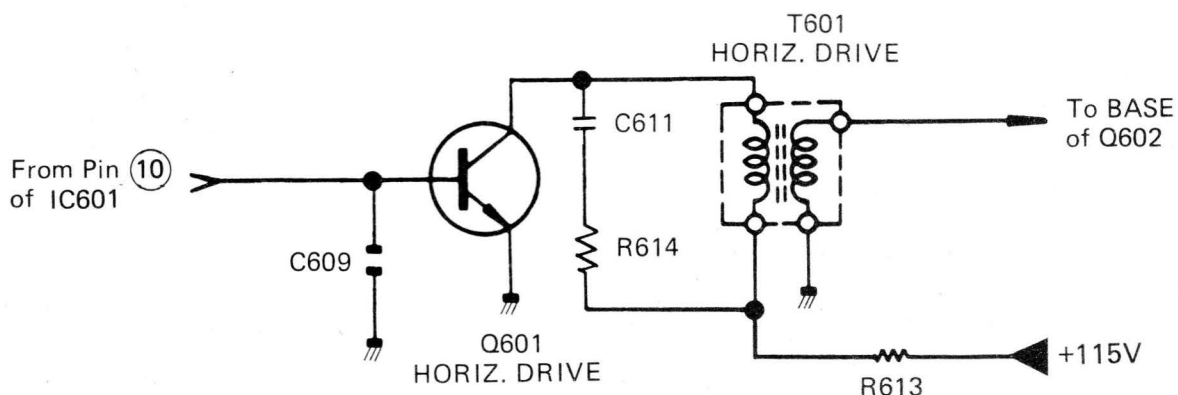
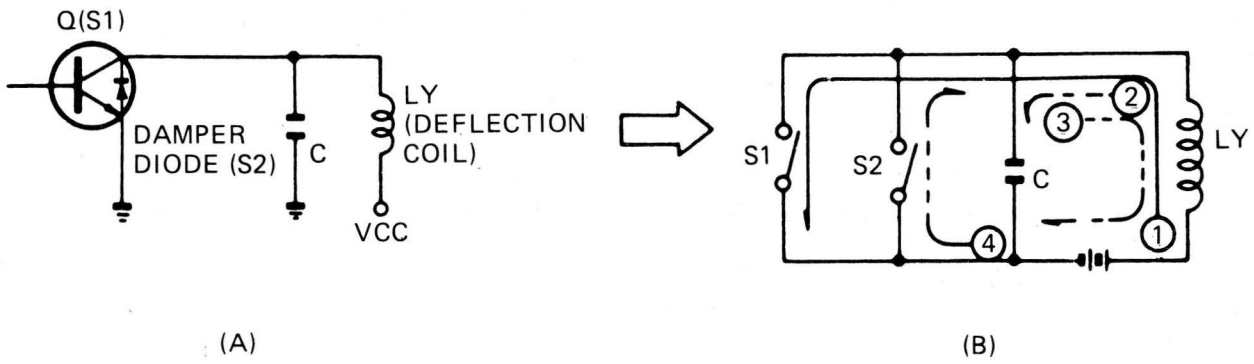

Figure 3. Horizontal Drive Circuit
Figure 4. Equivalent Circuit of Horizontal Output Circuit
5. Horizontal Output and HV Rectifier (Figs. 3—5)
The horizontal drive signal, developed at pin (10) of the deflection processor integrated circuit (IC601), is amplified through the horizontal drive stage (Q601) and coupled to the base of the horizontal output circuit via the horizontal drive transformer (T601). Refer to Fig. 3. The horizontal output circuit generates the horizontal scanning signal and a high voltage to be applied to the picture tube. The function of the horizontal output stage (Q602) is to serve as a switch for the horizontal output circuit. Refer to Fig. 4.